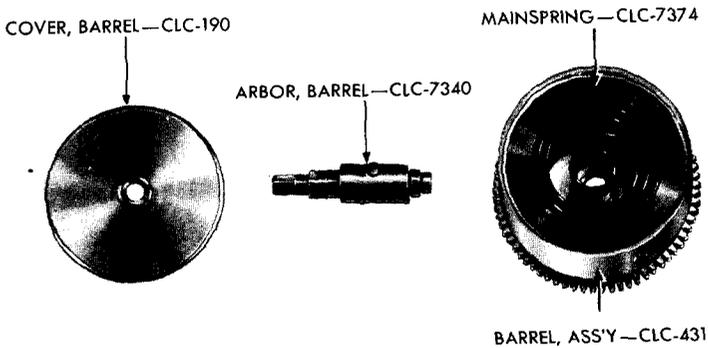

Figure 218 — Message Center Clock M1 — Mainspring Barrel Assembly Cap and Arbor Removed
q. Remove Mainspring Assembly. Tap the mainspring barrel arbor with a brass mallet and snap the barrel cap out its groove. Remove barrel cap. Remove barrel arbor by turning it clockwise to release it from mainspring. Remove mainspring from the barrel by grasping it by the inside coil with pliers and slowly unwinding it from the barrel. Do not remove the mainspring from the barrel unless it is necessary to do so for replacement (fig. 218).